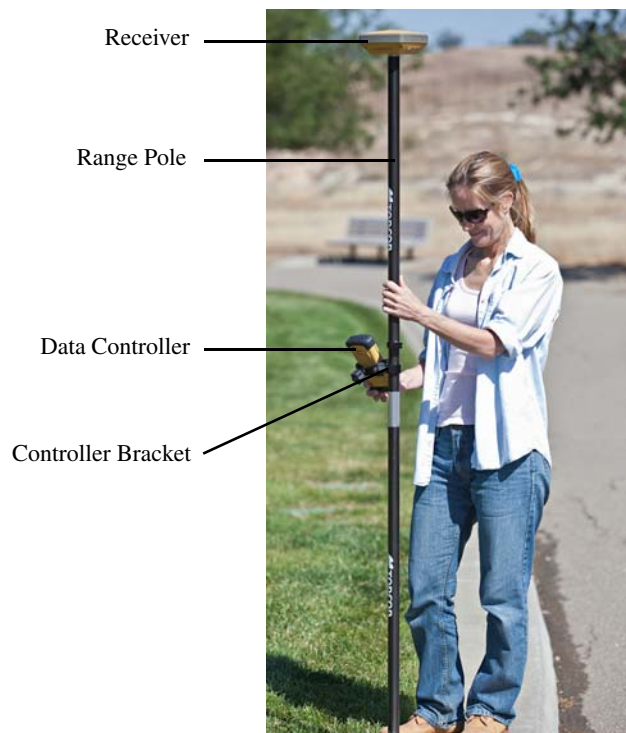

Figure 24: RTK Rover
1. Mount the receiver on the rover pole, as shown in Figure 24.